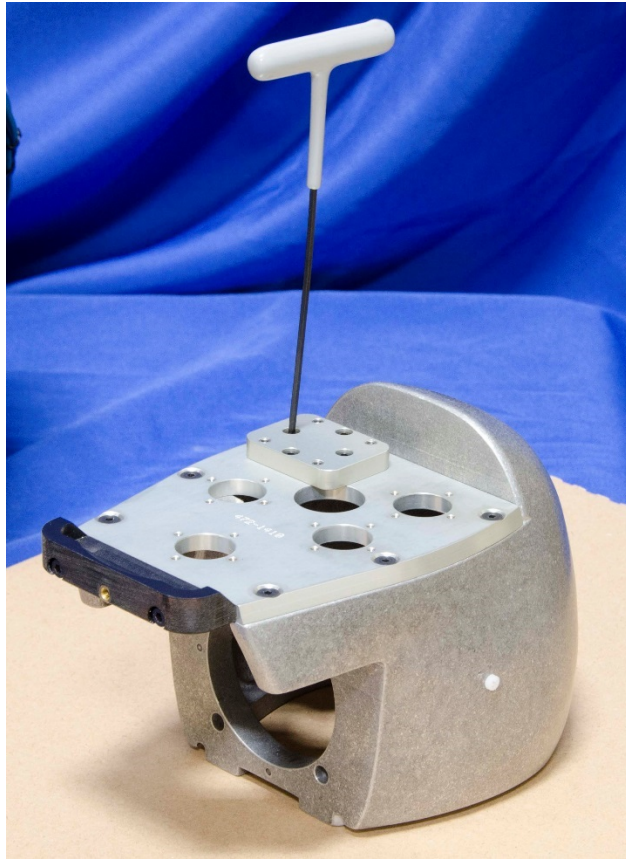
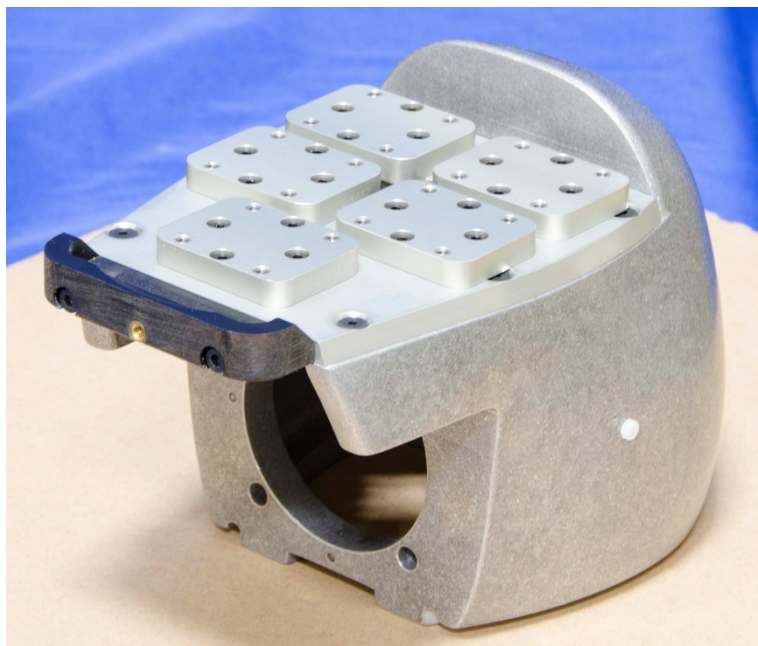

Figure 3-9. Secure the face load cells to face plate
Figure 3-10. Face load cells fully assembled
- 3.2.2.7 Attach five Face Load Cells (SA572-S124) or the load cell substitutes (472-1417) to the Face Plate using twenty M3 x 0.5 x 10 SHCS (Figure 3-9 and Figure 3-10).